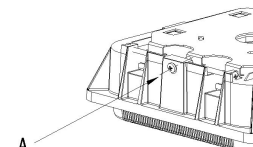

Figure 8
- Retighten screw A to hold the mounting plate in place on the luminaire body. See Figure 8.